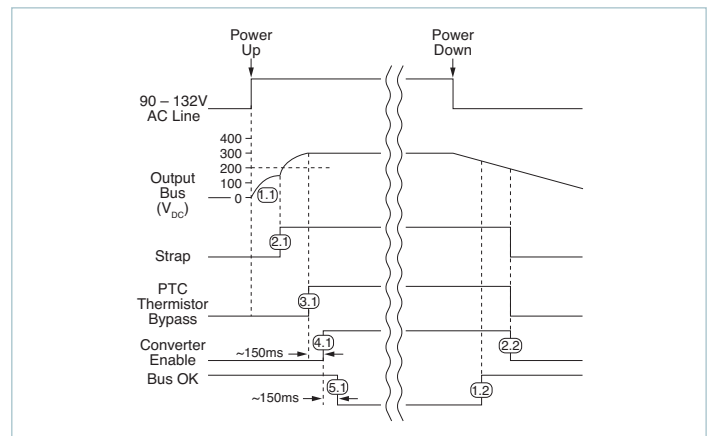

Figure 9.4 — Timing diagram: power-up / down sequence
**Power-Up Sequence (Figure 9.4)**
**Power-Down Sequence (Figure 9.4)**